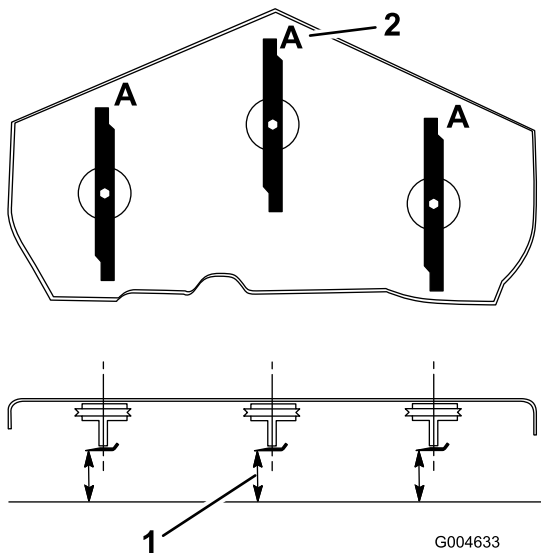

Figure 72
3. Rotate the blades until the ends face forward and backward (Figure 72). Measure from a level surface to the cutting edge, position A, of the blades (Figure 72). Note this dimension.